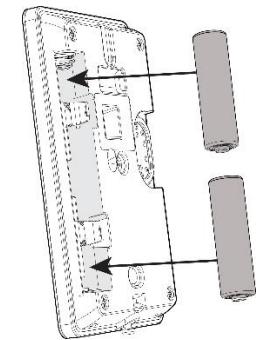

Figure 4
5. Insert batteries into keypad as per Figure 4.